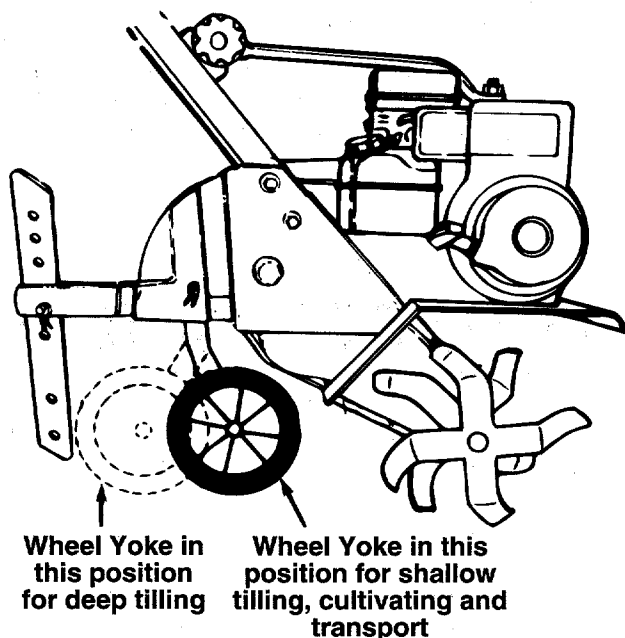

FIGURE 7.
1. **Wheel Yoke Adjustment:** Place wheel yoke so that the wheels are forward (nearest point between wheels and tines) for shallow tilling, cultivating and transport. The forward speed will increase. Turn yoke around (farthest point between wheels and tines) for deep tilling. Forward speed will decrease. See figure 7.